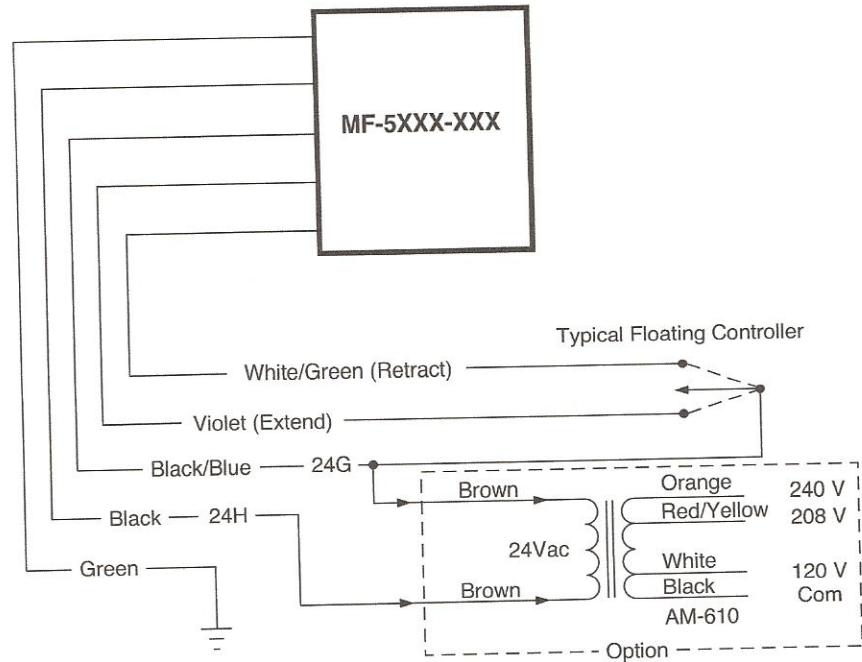

Figure-1 Basic Wiring Diagram.
**SPDT Floating Control Output or 2 SPST Control Contacts**, Minimum rating of 1A @ 24 Vac, inductive load. Refer to Figure-1.
Figure-1 illustrates a typical wiring diagram using an MF-5XXX-XXX and a transformer kit (AM-610). Two single-pole, single-throw contacts can also be used to control the actuator position.